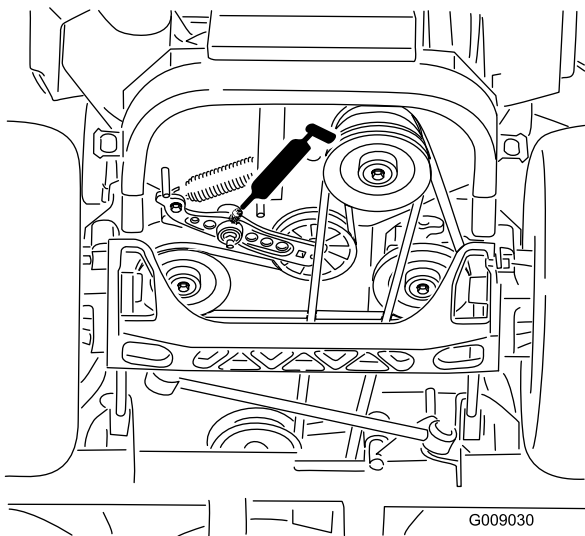

Figure 40
5. Grease the drive belt idler arm (Figure 40).